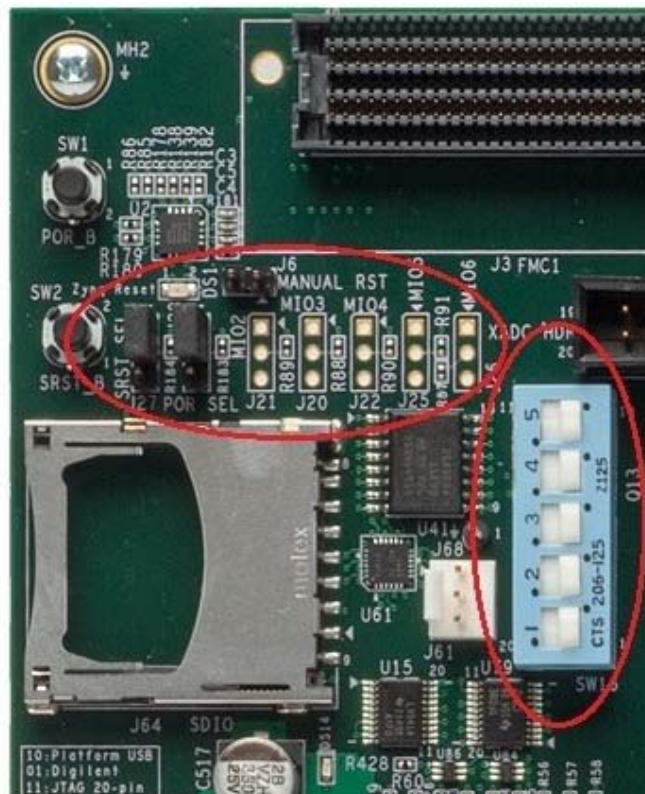

Figure 5-2: Ensure the SW16 Switch Setting
- Ensure the SW16 switch setting as shown in Figure 5-2.